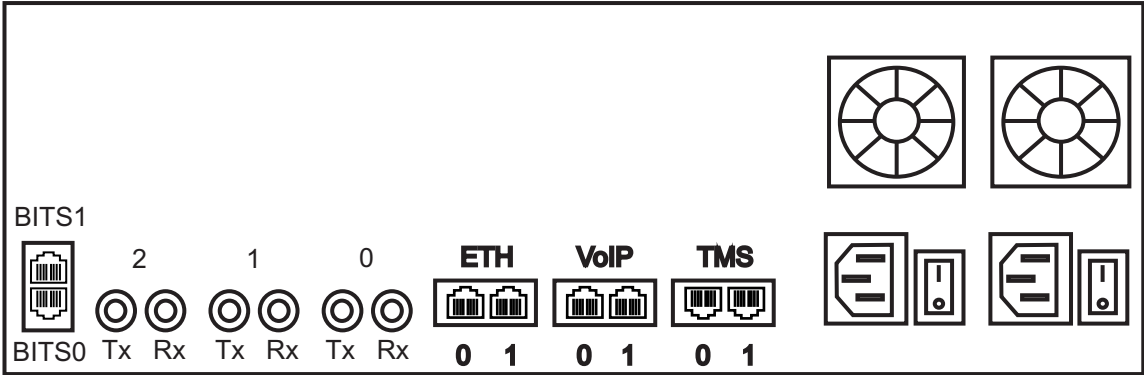

Figure 2.7 DS3 Interface to the PSTN
A TMG3200-DS3 with 3 sets of BNC connectors enables the connection to DS3 lines. See figure 2.7 on page 17
1. Start with the Dual BNC port pair #0 (right-most) as shown in figure 2.7 on page 17. Connect one pair of BNC cables between this port and the DS3 line.